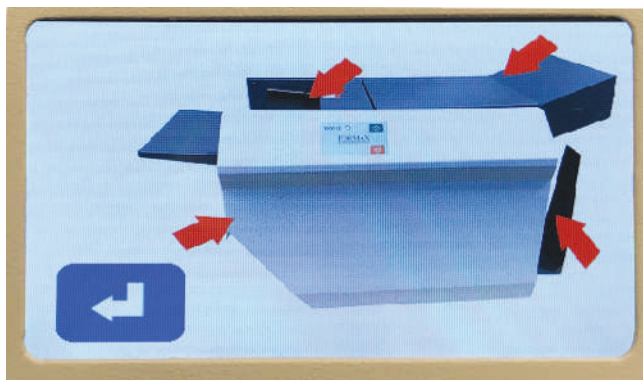

Fig. 14
2. Reinstall cover and press the black reset button (Fig14).